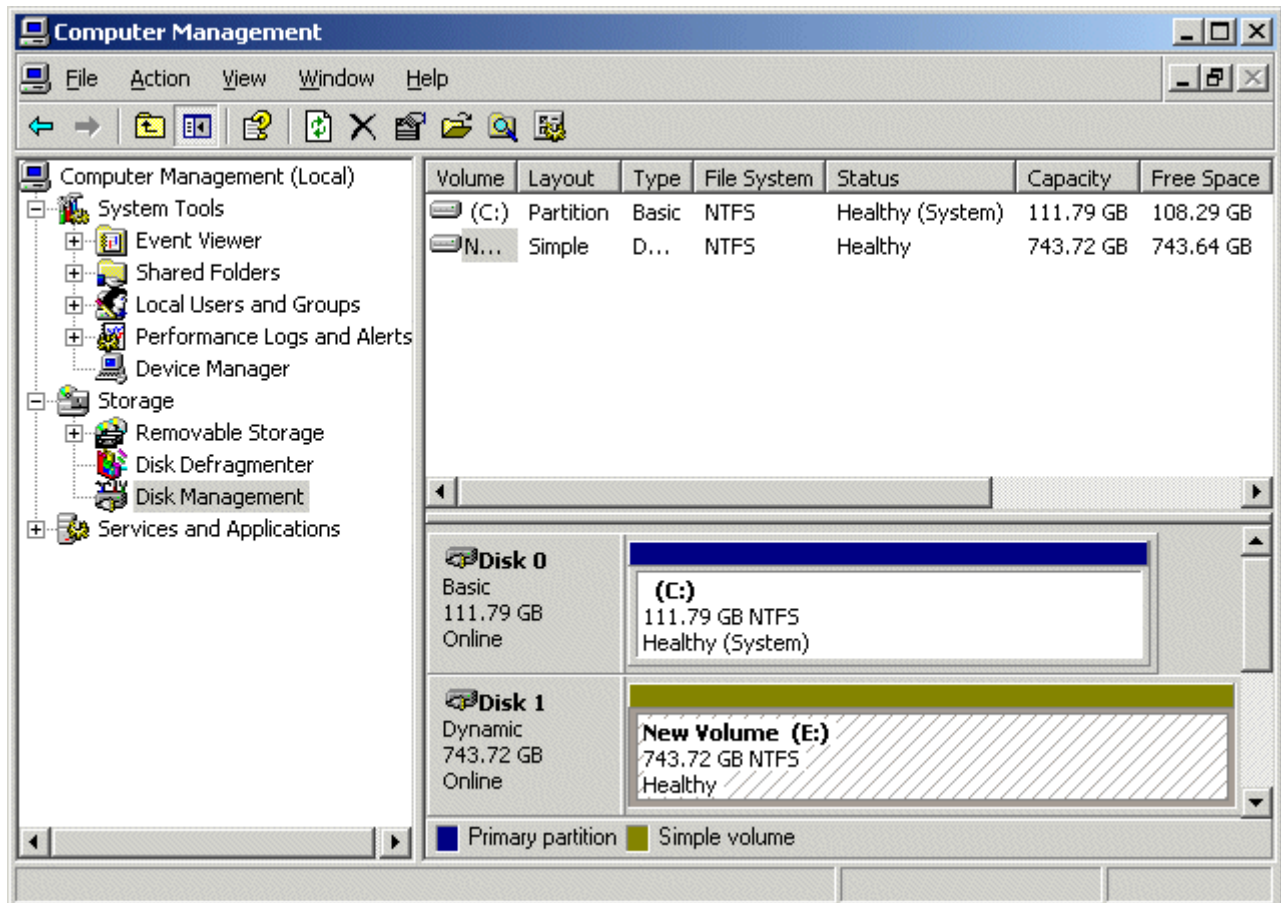

Figure 3-34. Disk 1 is now shown as being Dynamic, Online, and Healthy
- 30) Observe that the **Disk Management** area of the **Computer Management** dialog now shows **Disk 1** as being **Dynamic**, **Online**, and **Healthy** as illustrated in Figure 3-34.